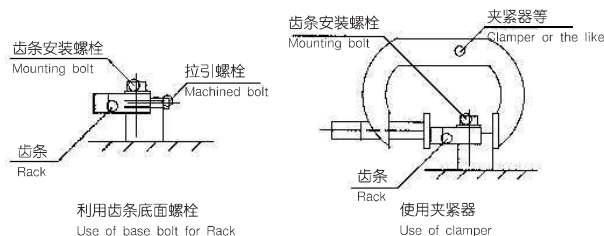

图1 齿条平行的调整方法 / Fig. 1 -Setting procedures for parallelism of Rack-
1. 请将齿条相对于基座基准面, 使用夹紧器或者用齿条底面的螺栓孔, 把齿条牢牢地紧固地贴在基准面上 (参照图1, 用齿条安装螺钉进行假装配。<建议为扭矩的50%, 请参照推荐参考建议扭矩表>)
Set Rack to reference surface of base, and tightly attach Rack to reference surface with use of clamp, base bolt or the like. (Refer to Fig. 1, provisionally tighten mounting bolt for Rack. <approx. 50% of recommended torque refer to list of recommended tightening torque>)